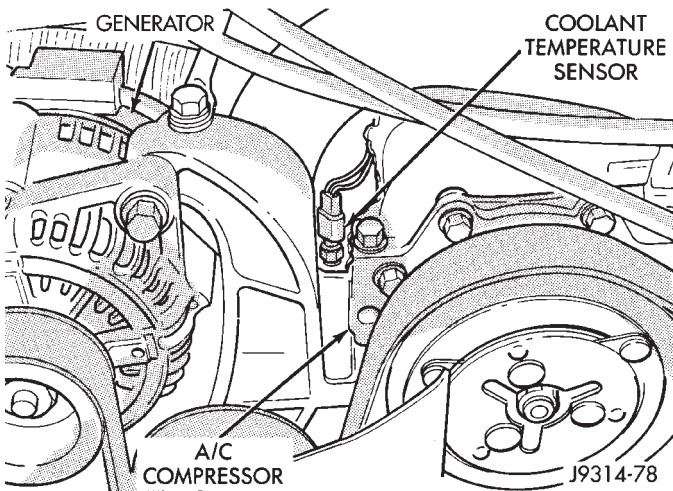

Fig. 14 Coolant Temperature Sensor—Typical
(1) Disconnect wire harness connector from coolant temperature sensor (Fig. 14).